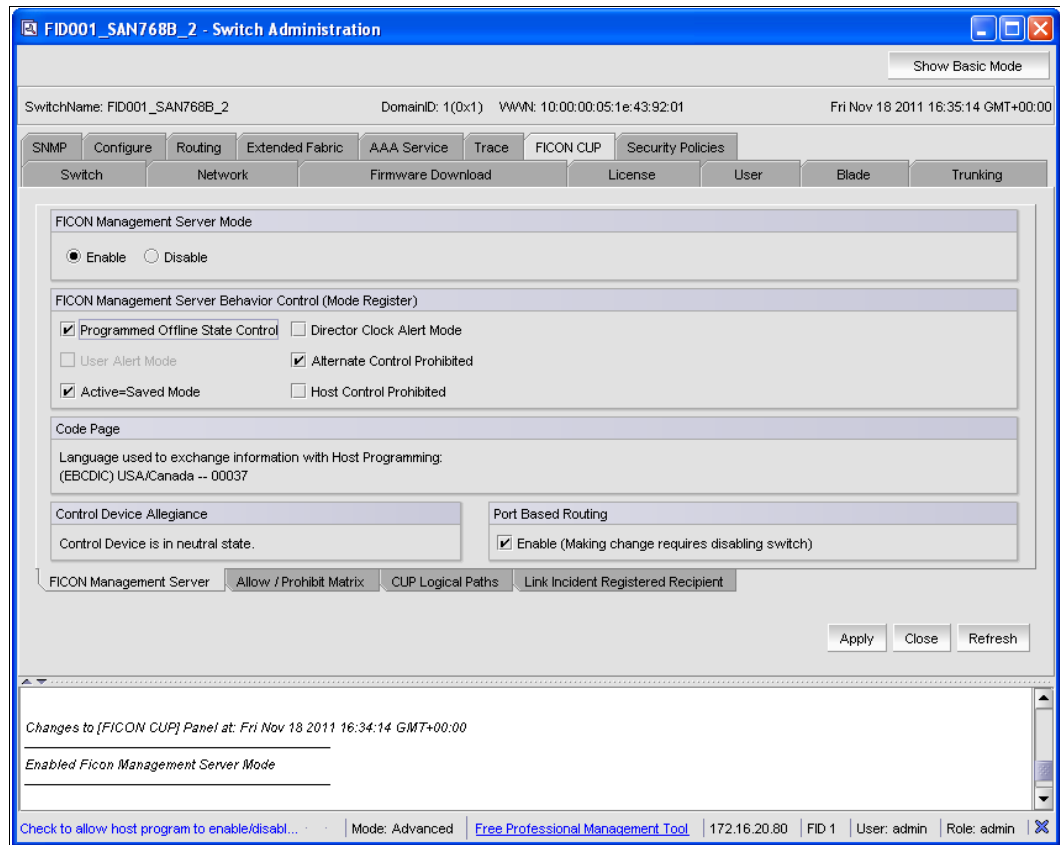

Figure 8-42 FICON Management Server Behavior Control
10. Now you can alter the FICON Management Server Behavior Control (Mode Register) field. Select the desired functions you want to use with the CUP, as shown in Figure 8-42.